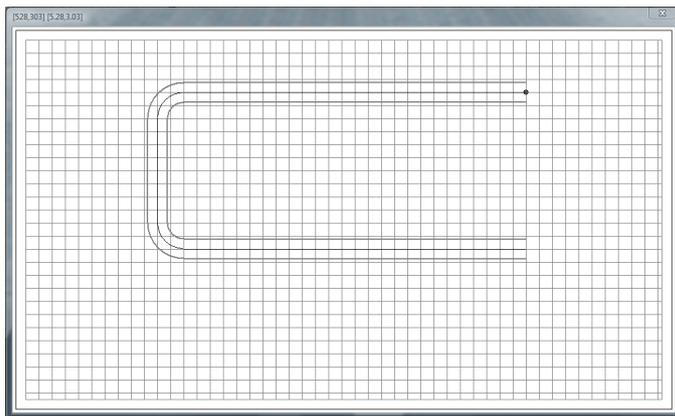

Figure 8-12: Adding Conveyor Segments
2. Drag and select the key icon. A wand-pointer appears on the screen. Use this cursor to click on a starting point for the conveyor. *It should be placed on the right side of the grid*, as shown in Figure 8-12: Adding Conveyor Segments. A red dot appears on the grid.